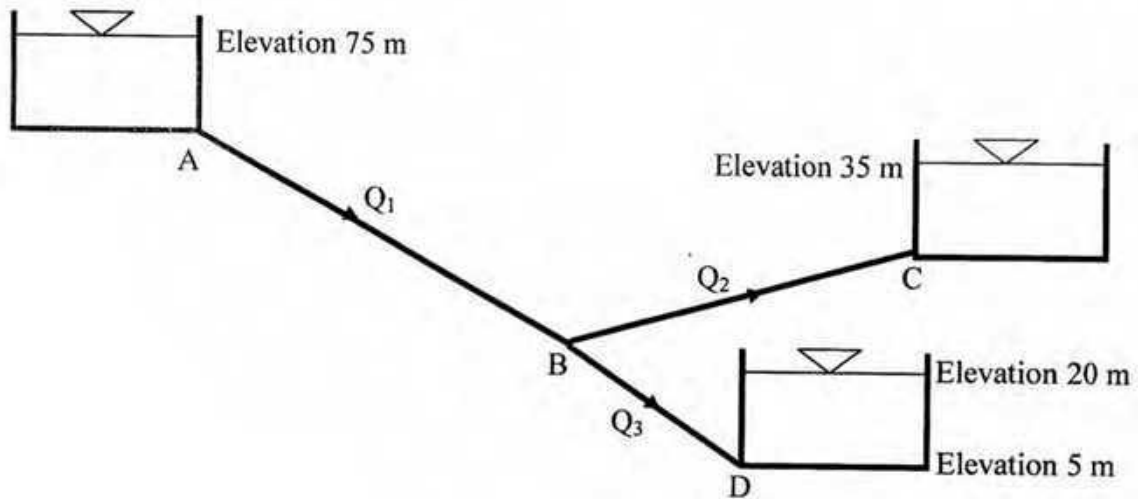

Figure 9
- b. Figure 9 Shows three reservoirs connected by pipes. Find the discharge in each pipe. Take $f=0.04$. The diameter and length of the pipes are as follows: 20